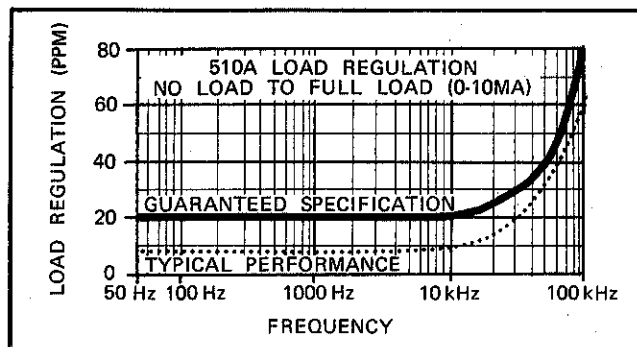

Figure 4-3. LOAD REGULATION
4-25. This check provides a means of verifying the line and load regulation performance. Line voltage changes should not cause output variations greater than 10 ppm under full load. No load to full load changes should not cause output variations greater than those given in Figure 4-3. The following test equipment is required to perform these checks:
- Reconnect the 1k load to the OUTPUT terminals, observing that the output voltage does not change more than the limit specified in Figure 4-3.